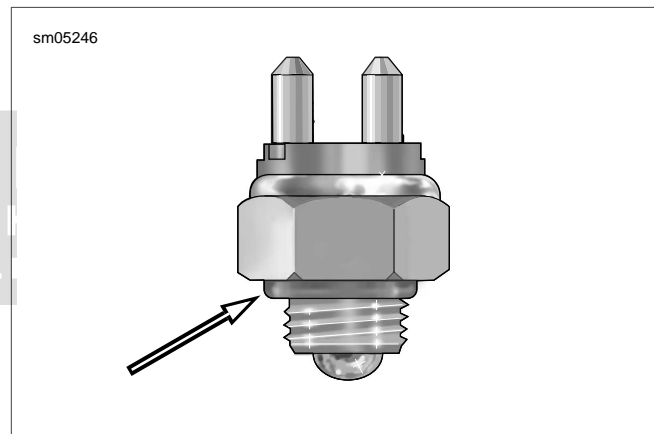

Figure 7-67. Neutral Switch O-Ring
1. See Figure 7-67. Inspect O-ring for cuts, tears or general deterioration. Replace as necessary. Lightly lubricate **new** O-ring with clean transmission oil before installation.